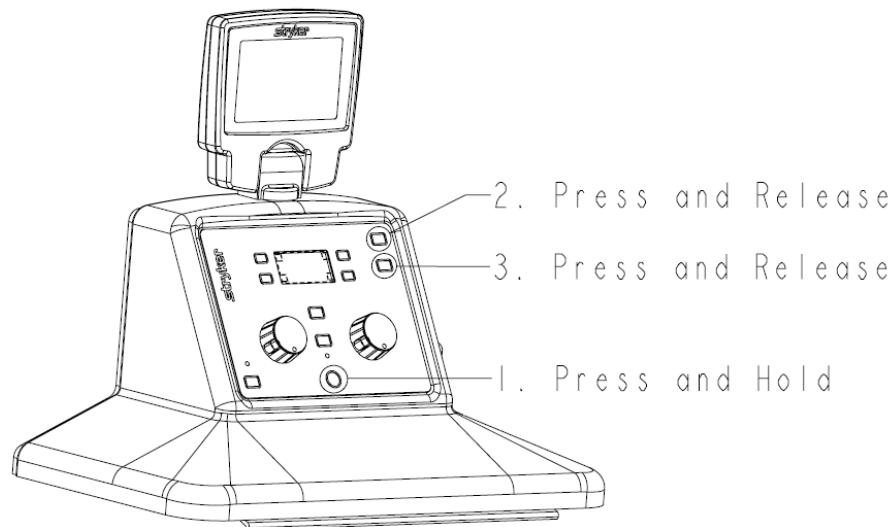

Figure 6: Access the Technician Menu
2. To access the technician menu from the system settings menu, hold down the Vacuum System power button, then press and release the IV Pole UP button, and finally press and release the IV Pole DOWN button (see figure 6).